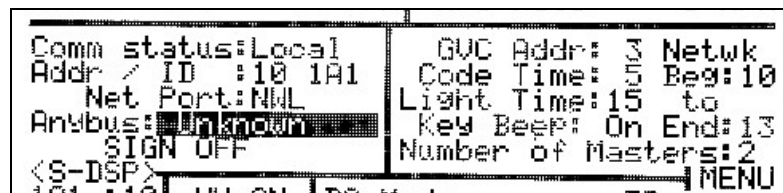

Figure 4-4
3. at the **Addr** field (fig. 4-4), use the <+Incr> and <-Decr> keys to assign a port number between 10 and 99